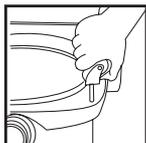

FIGURE 10
13. Insert casters into front of dolly by placing stem of casters into holes provided. Apply pressure and twisting motion until casters snap into place. **FIGURE 10.**